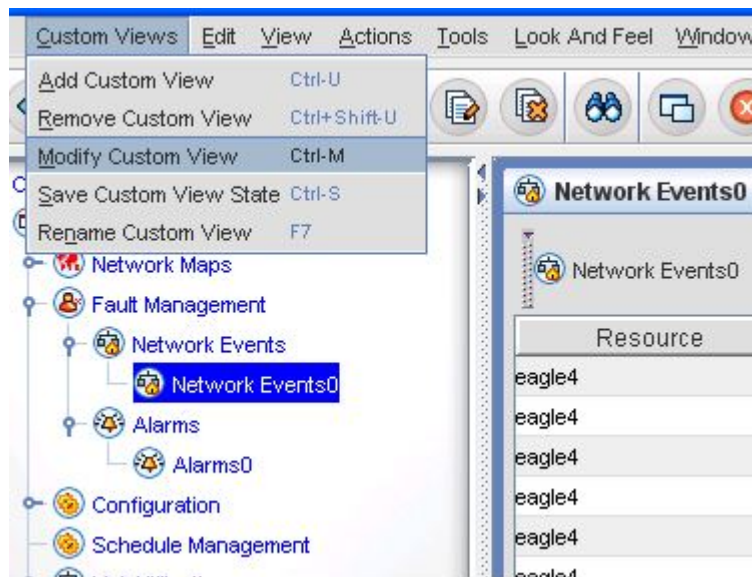

Figure 123: Modify Custom View By Using Menu Bar
- From the **Custom Views** menu in the top menu bar, choose **Modify Custom View** as shown in Figure 123: Modify Custom View By Using Menu Bar.